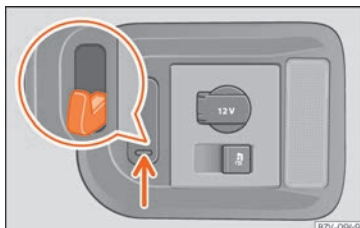

Fig. 176 In the boot: retaining hooks.
On the right-hand side of the luggage compartment, there are folding retaining hooks »» Fig. 176 that can be used to secure light shopping bags.
- Press the retaining hooks down »» Fig. 176 (arrow) and fold them.